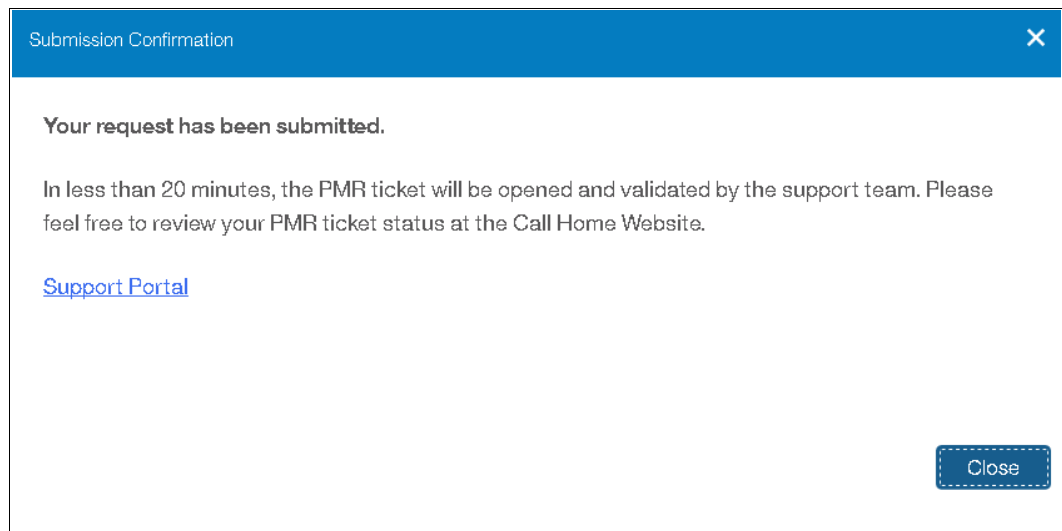

Figure 7-109 PMR submission confirmation window
3. The Submission Confirmation window opens. You can access the Support Portal site by clicking the hyperlink in the Submission Confirmation window. Click **Close** to exit the Submission Confirmation window (see Figure 7-109).